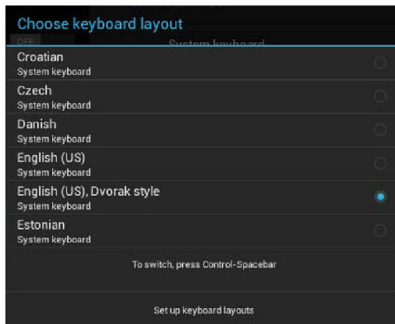

FIG. 92 Keyboard Layout window
8. Press the return Varia to close the Keyboard Layouts window and open the Choose Keyboard Layout window (FIG. 92):